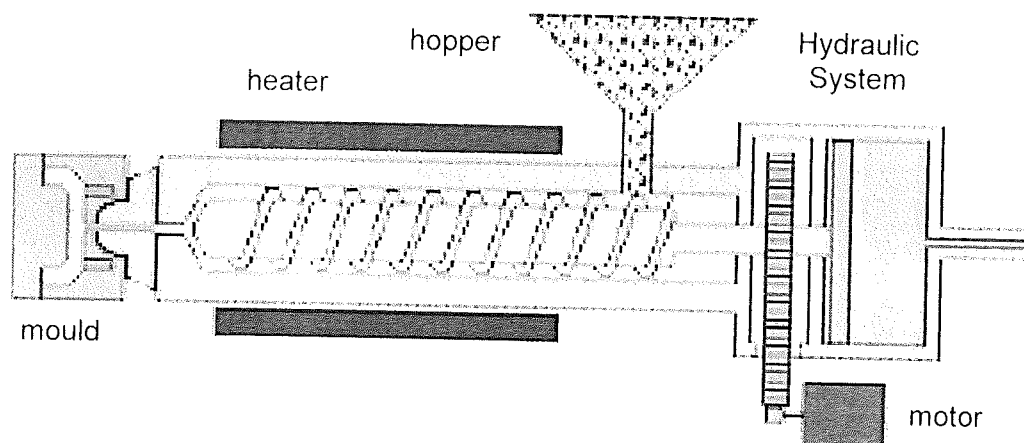

Figure 1. Injection moulding system
- [b] Injection moulding is a manufacturing process for producing parts by injecting polymer material into a mould. As can be seen in Fig. 1, it shows a typical injection moulding system. Establish the energy balance and mechanisms of energy transfer (assume that the process is steady flow).